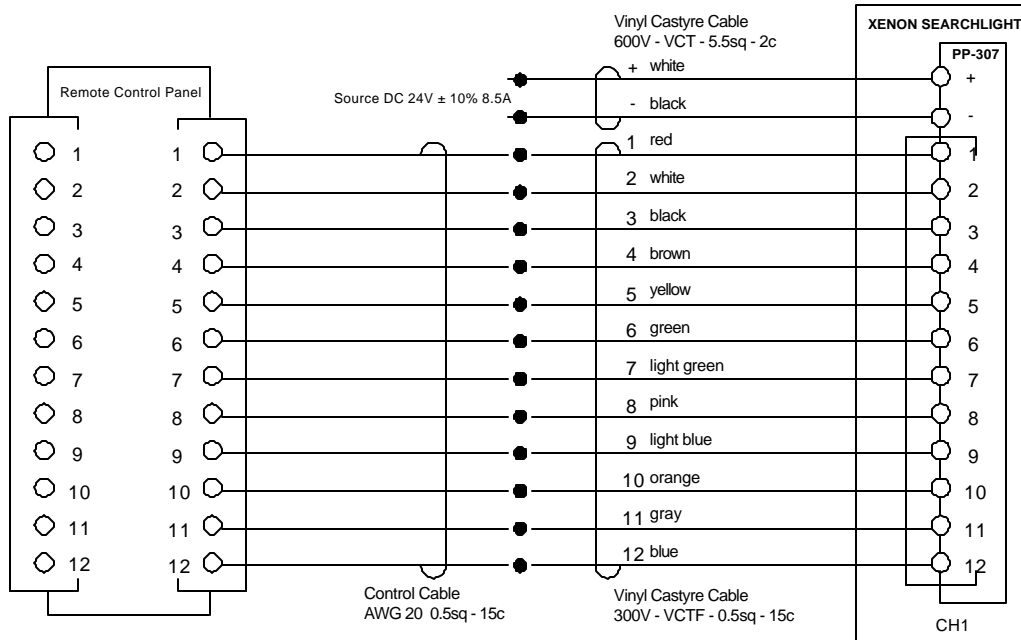

FIGURE 3
3.3 Wiring of Remote Control Panel (see Figure 3)